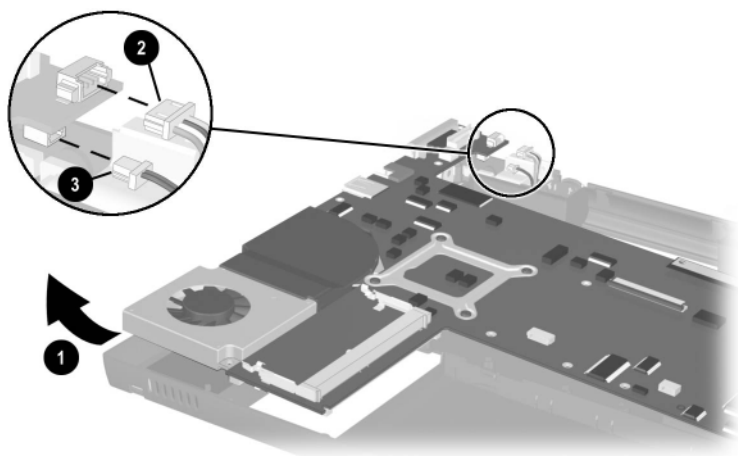

Figure 5-34. Disconnecting the External Battery Terminal and NTSC Module Cables from the System Board
14. Use the fan and heat sink assembly to lift up and hold the right side of the system board ❶ until the external battery terminal ❷ and NTSC module cables ❸ clear the base enclosure (Figure 5-34).
15. Disconnect the external battery terminal ❷ and NTSC module cables ❸ from the system board.